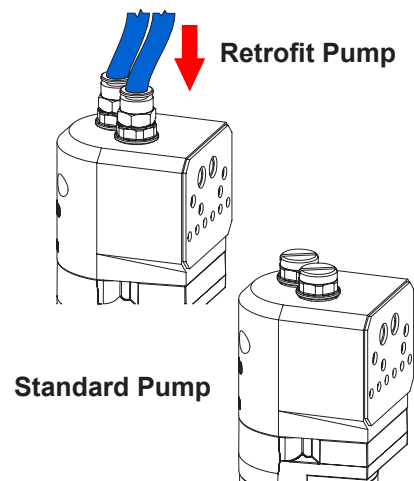

Figure 18 Reinstalling the Purge Air Tubing
4. See Figure 18. Install the fluidizing tube assemblies into the pump body. Tighten the access plugs, then reconnect the purge air tubing.